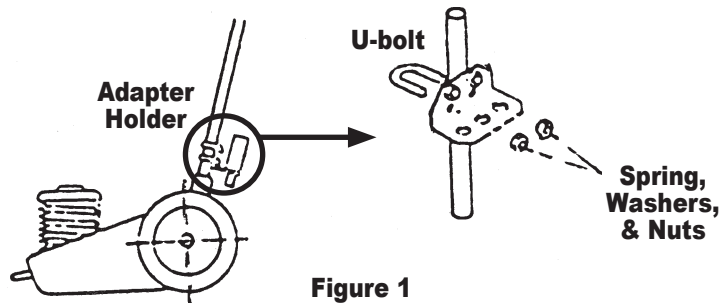

Figure 1
2. Assemble the adapter holder to the handle using U-bolts, nuts, and spring washers provided. See Figure 1. **NOTE:** When not using the adapters, store them on the holder. Lock each adapter in place with a hitch pin.